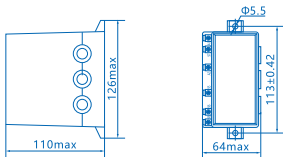

Figure 1 Outline and installation size of protector with rated operating current below 80A
3.1 Outline and installation size: see Figure 1, Figure 2, unit: mm.